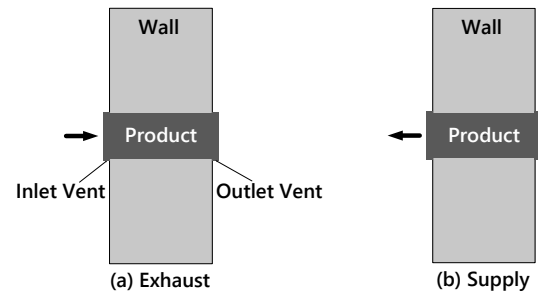

Figure 1. Schematic of the installation of the product in (a) exhaust and (b) supply modes.
- Drill a horizontal hole with a minimum diameter of ~3.7 in (~94 mm) into a wall as shown in **Figure 1**. It is strongly recommended to add  $\leq 0.3$  in (~76 mm) tolerance to the hole diameter to account for insulation and/or wiring.